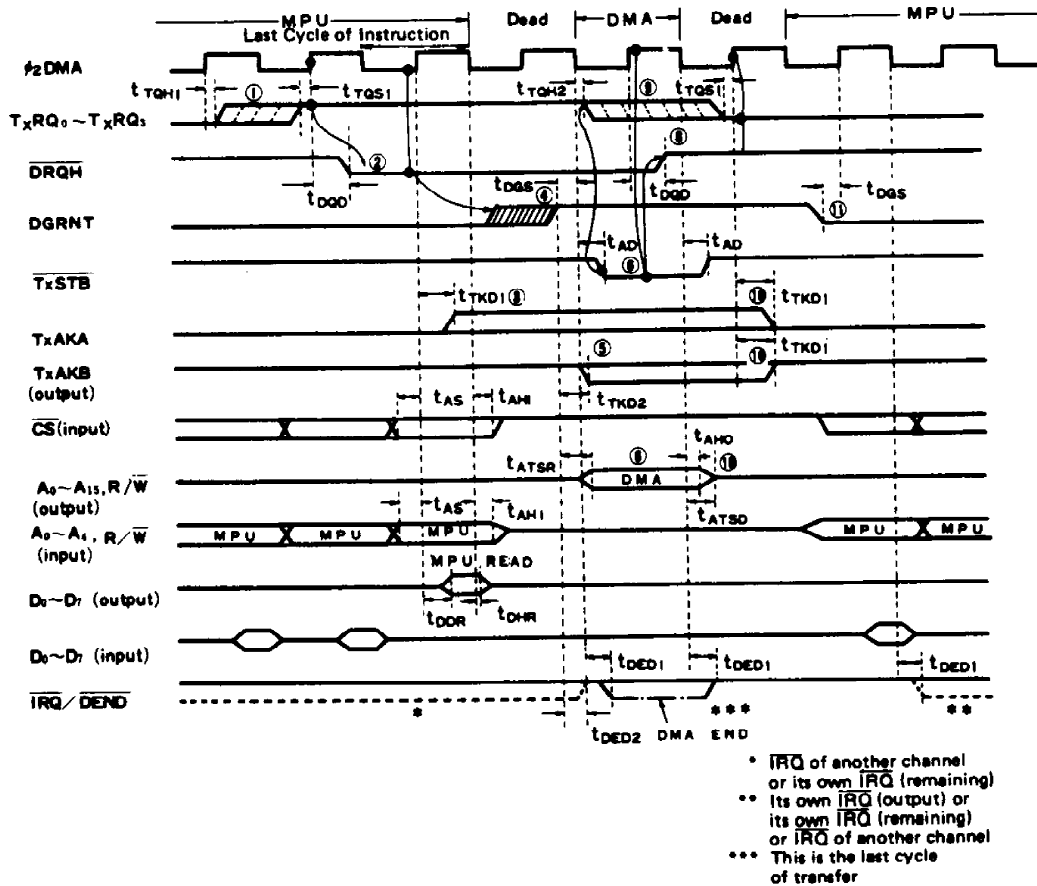

Figure 12 HALT Cycle Steal Mode
Timing chart is shown in Fig. 12 and flow chart is shown in Fig. 13. Procedure of transfer operation is the following. (No. ① ~ ⑭ in Fig. 12 correspond to the following items.)
- ① TxRQ₀~TxRQ₃ input is checked at the rising edge of ϕ_2 DMA. When it is at "High" level, it gets into the following operation.
- ② DRQH="Low" is output and MPU is requested to stop its operation.
- ③ TxAKA is driven (Level output).
- ④ MPU stops its operation and DMAC waits until DGRNT goes to "High" level.
- ⑤ When DGRNT goes to "High" level, DMAC drives TxAKB, A₀~A₁₅ and R/W lines.
- ⑥ TxSTB is given to perform DMA transfer.
- ⑦ Address is incremented or decremented by one and number of transfer words is decremented by one.
- ⑧ When DRQH rises to "High" level, MPU gets into Instruction Cycle again.
- ⑨ TxRQ falls to "Low" level.
- ⑩ A₀~A₁₅ and R/W get into high impedance state again.
[Note] TxRQ₀~TxRQ₃ input in HALT cycle steal is, in principle as shown in Fig. 12, set to "High" every 1-byte transfer on account of I/O request. When TxSTB of the DMAC is driven, it is reset to "Low". Take care not to be against this principle, or the following states may happen.